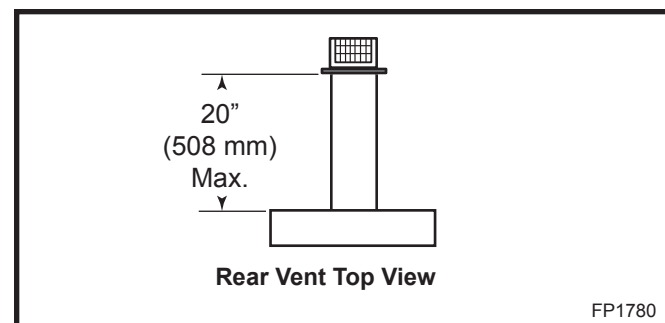

Fig. 15 Rear vent application, no elbows.
- The maximum horizontal distance between the rear of the appliance (or end of the transition elbow in a corner application) and the outside face of the rear wall is 20" (508 mm). (Fig. 15 & 16)
Measure the horizontal length requirement for the venting including a 2" (51 mm) overlap, i.e. from the elbow to the outside wall face plus 2" (51 mm). (Fig. 15 or 16)